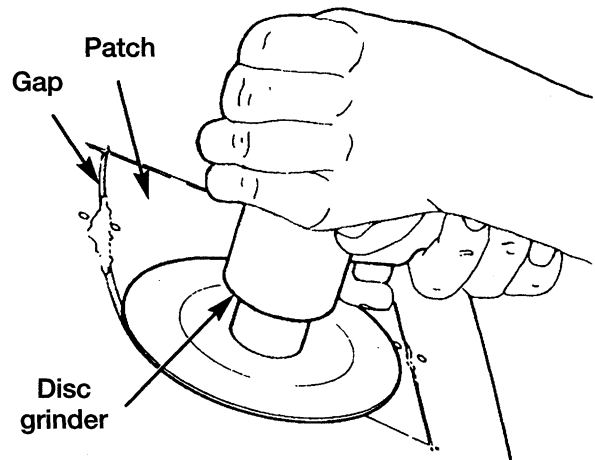

Fig. 7 Grind Surface
17. Using a 125mm (5 in.) 24 grit disc grinder, grind a 50mm (2 in.) to 75mm (3 in.) wide and 2mm (0.080 in.) deep path across the gaps around the patch (Fig. 7). With compressed air, blow dust from around patch.